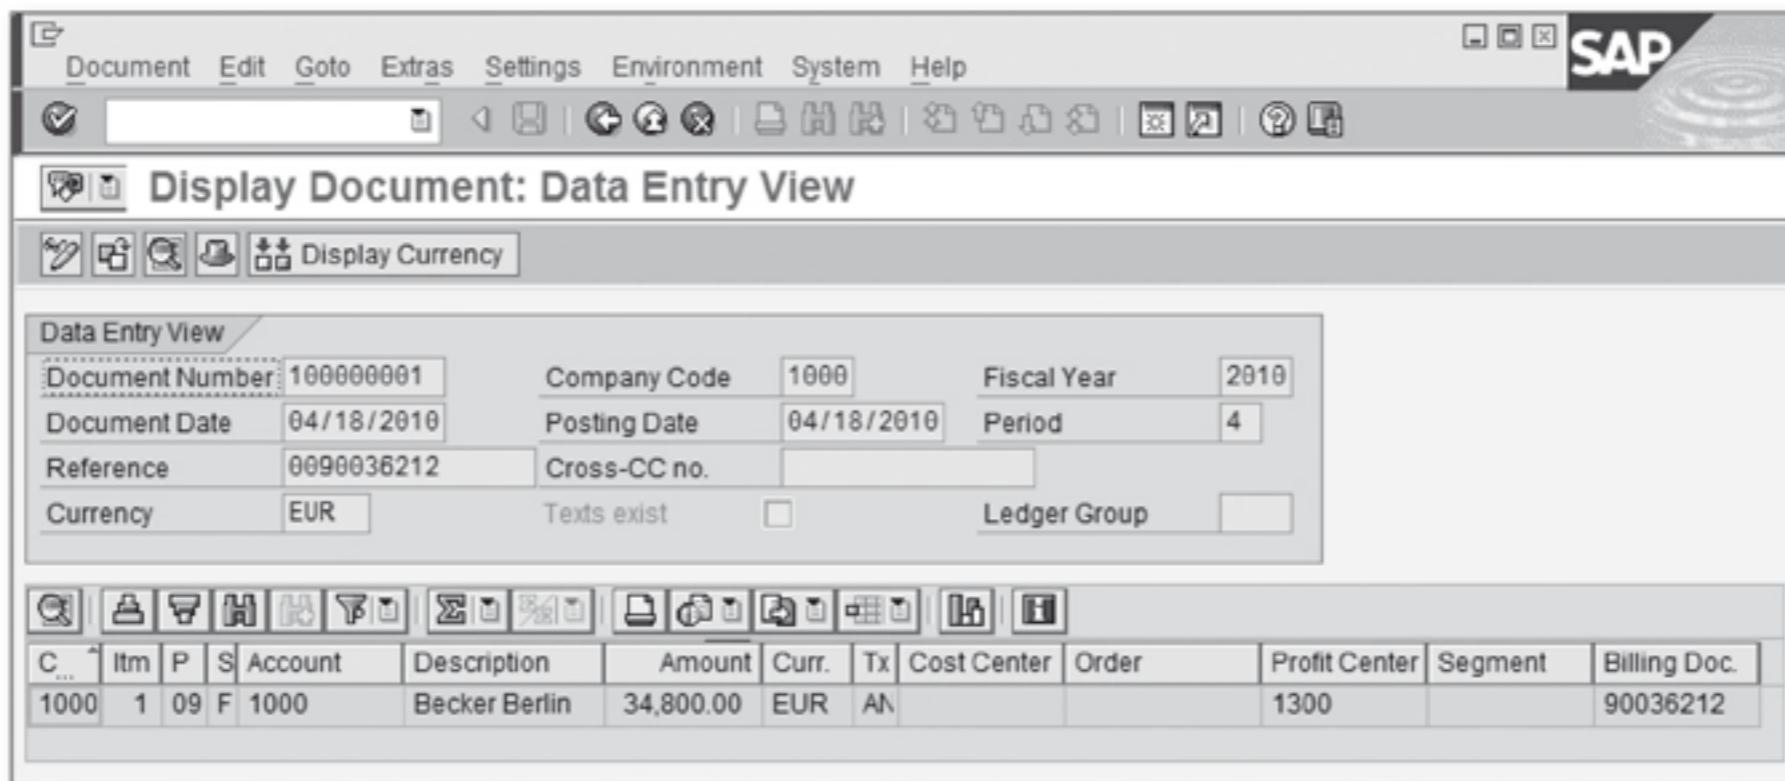

Figure 5.37 Accounting Document Posting to Special GL
5. The down payment request billing document is automatically released to accounting and posted in Financial Accounting as a down payment request. The item has a special General Ledger (GL) indicator F, which ensures that the posting is statistical and made to a different reconciliation account (see Figure 5.37). This allows you to differentiate down payment requests from other account receivables.